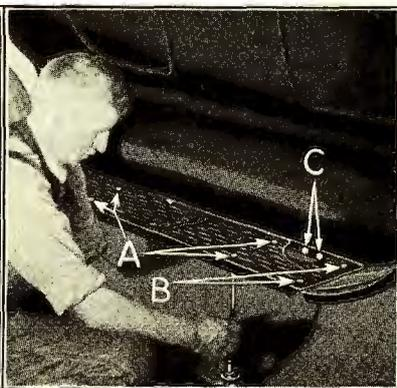

Fig. 6
- (a) Run out the four running board bolts and nuts (See "A" Fig. 6).